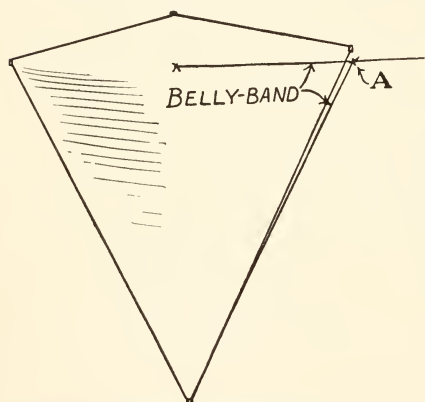
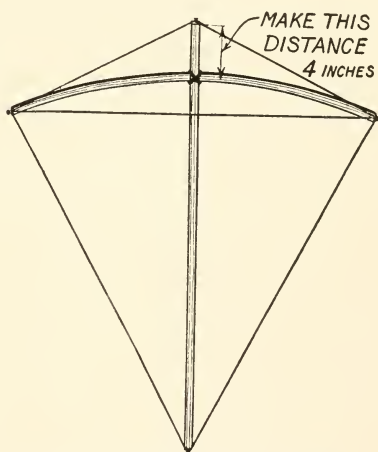

FIG. 18. — Completed Malay Kite with Belly-Band Attached.
FIG. 19. — Framework of Malay Kite.
in flight, Fig. 18 a detail of the completed kite, Fig. 19 the completed framework, and Figs. 20, 21, and 22 the details for preparing the frame sticks.
**Framing the Sticks.** Fasten the bow-stick at its exact center to the vertical stick, placing it 4 inches down from the top of the vertical stick, as indicated in Fig. 19. Drive a couple of brads through the two sticks to hold them
**Attach the Bridle** at the intersection of the bow-stick and vertical stick, and at the lower end of the vertical stick (Fig. 18), and make it of the right length so when held over to one side it will reach to the end of the bow, as
indicated in Fig. 18. Tie the flying line securely at the point A (Fig. 18); then the kite will be ready for its maiden flight.